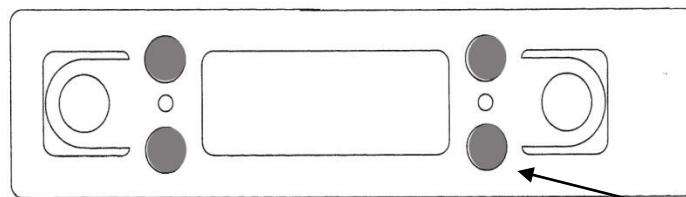

Figure 3
Step 3: Install 4 rubber pads on the inside each side panel as shown in figure 3.